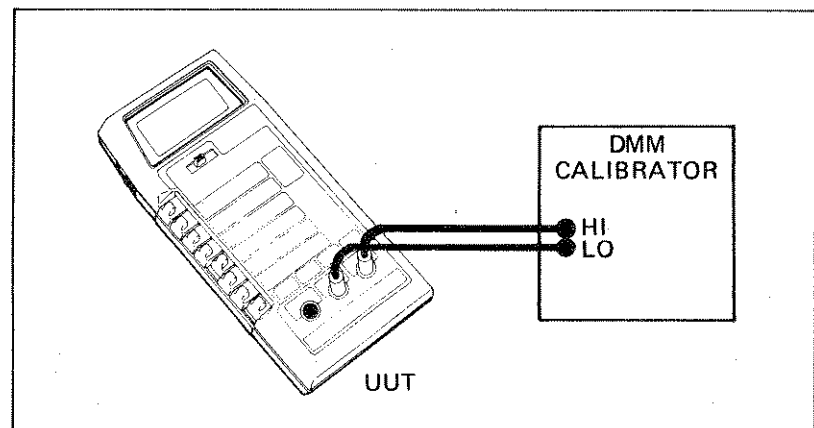

Figure 4-3. General Equipment Connection
3. Connect the equipment as shown in Figure 4-3.
1. Connect the equipment as shown in Figure 4-3 and release the mA- $^{\circ}$ C-V/ $\Omega$ /S function switch.
2. Connect the equipment as shown in Figure 4-3.